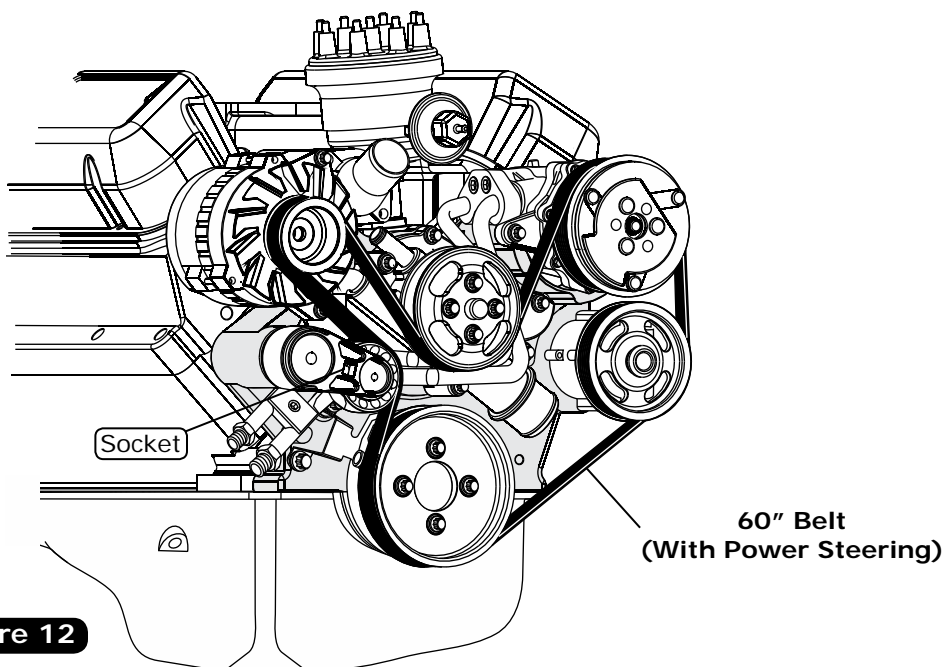

Figure 12
1. Insert a 1/2"-drive ratchet or breaker bar into the socket on the tensioner, and rotate it clockwise to the tensioner stop. Route the belt around the crankshaft pulley, power steering pulley and alternator, and over the compressor. Finally, pull the belt down and slide it under the water pump pulley (See Figure 12, below).